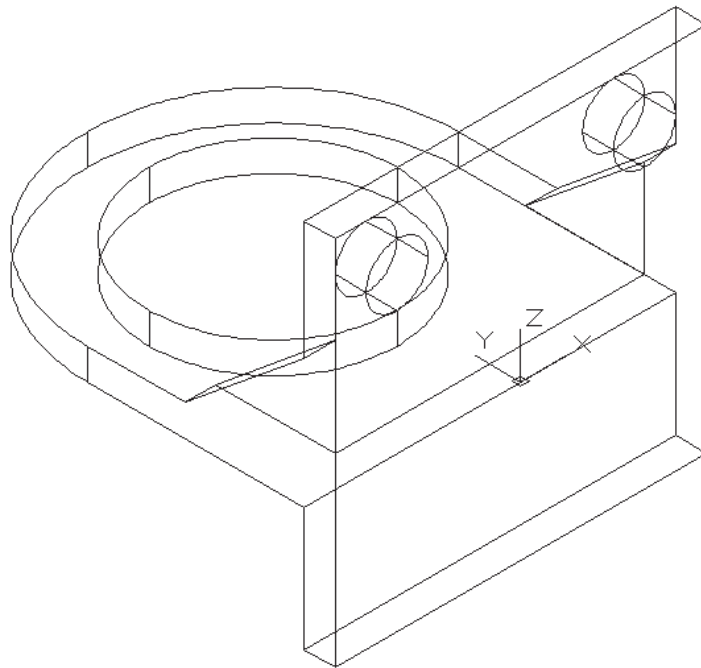

Figure 11–41
8. The mounting bracket displays in the drawing window, as shown in Figure 11–41. Zoom extents to display the entire model as required.